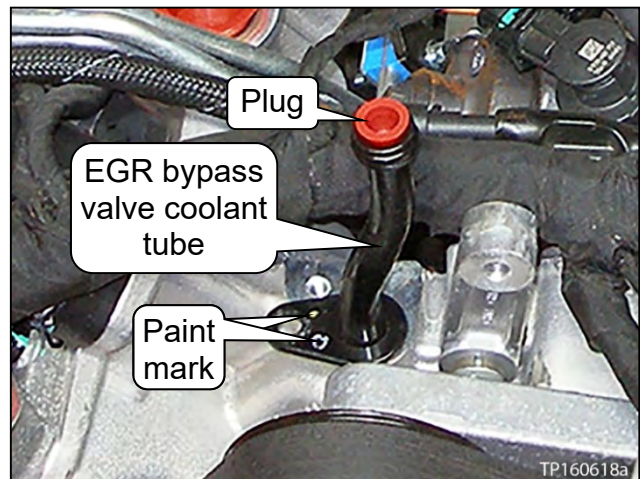

Figure 77
18. Remove the plug, and then remove the EGR bypass valve coolant tube (see Figure 77).
NOTE: Make sure the paint mark(s) are facing upward as shown in Figure 77 once the intake manifold is installed.